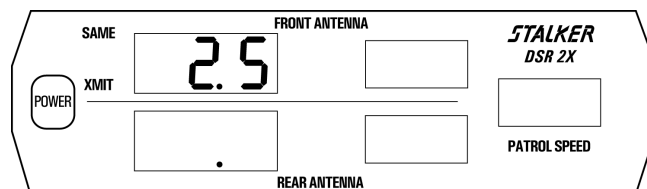

Fig. 53
To perform the tuning fork test: press the **PWR** key, press the **MOV/STA** key and select stationary mode, press the desired Target Zone key to enter transmit mode. Press the **TEST** key and wait for the tuning fork mode following the internal test sequence. Strike the 25 mph tuning fork against a hard nonmetallic surface, such as the heel of a shoe. Quickly hold the tuning fork approximately two (2) inches in front of the antenna, with the narrow edge of the fork facing the antenna. The target window should indicate  $25 \pm 1$  mph (40 kph) (Fig. 53).